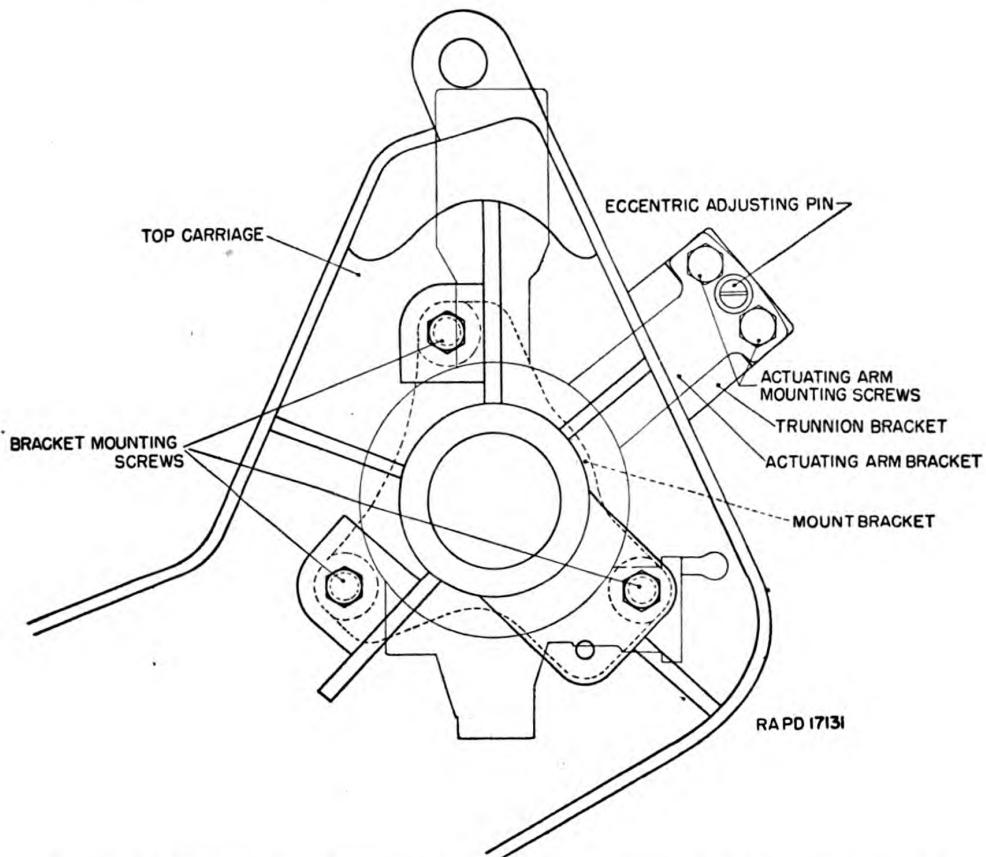

FIGURE 17.—Location of mounting screws in top carriage and trunnion bracket.
**23. Disassembly and assembly.**—*a. To remove telescope mount from gun or howitzer carriage (fig. 17).*—(1) Remove the actuating arm mounting screws which secure the actuating arm bracket to the trunnion bracket. Remove the nuts and washers from the two lower screws in the mount bracket.